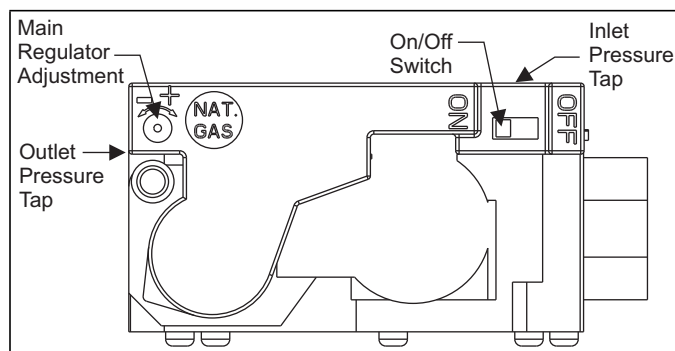

FIGURE 26: Gas Valve
Inlet and manifold gas pressure may be measured by connecting the "U" tube manometer to the gas valve with a piece of tubing. Follow the appropriate section in the instructions below. Refer to Figure 26 for a drawing of the locations of the pressure ports on the gas valve.
4. Refer to Figure 26 for location of pressure regulator adjustment cap and adjustment screws on main gas valve.